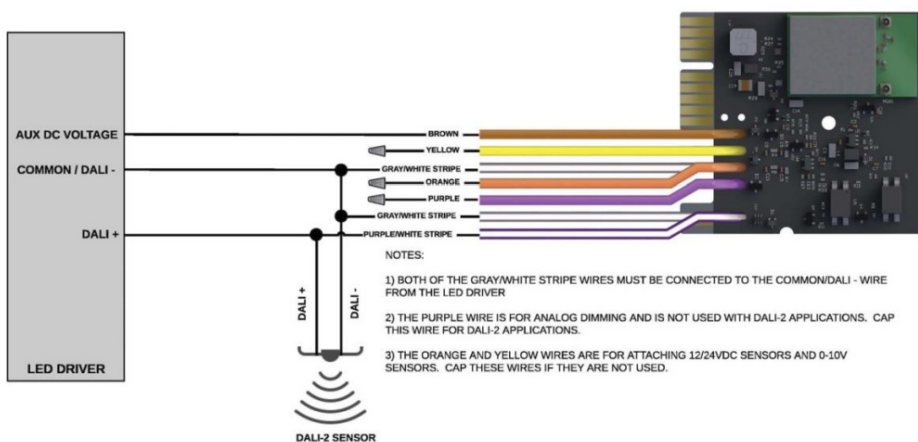

Figure 2 – DALI-2 Wiring Diagram
12. Cap the unused DIM+ (PURPLE) wire. (See Figure 2)